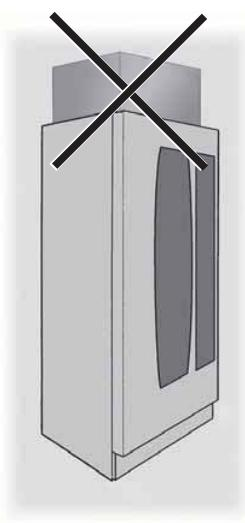

Fig. 11
- do not put other appliances or boxes on the vending machine (Fig. 11);